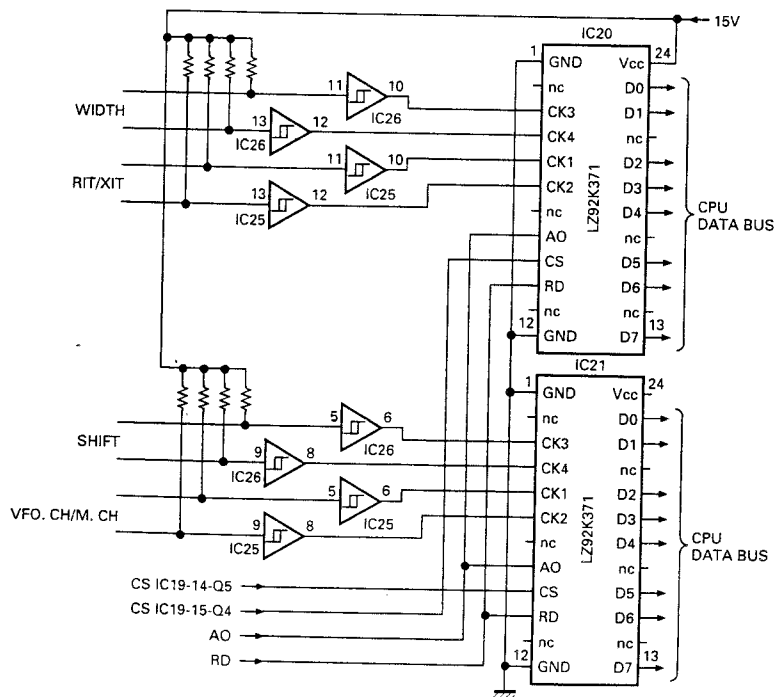

Fig. 13 Encoder circuit
CPU data bus. The gate array is selected by the latch (IC19 : TC74VHC573F) Q4 and Q5. The CK1, CK2 or CK3, CK4 encoder is selected by A0 of the gate array. Encoder data is output to D0 to D7 by making the read signal (RD) LOW when the chip select (CS) signal is LOW. IC25 and IC26 absorb encoder pulse chattering. (Figure 13)